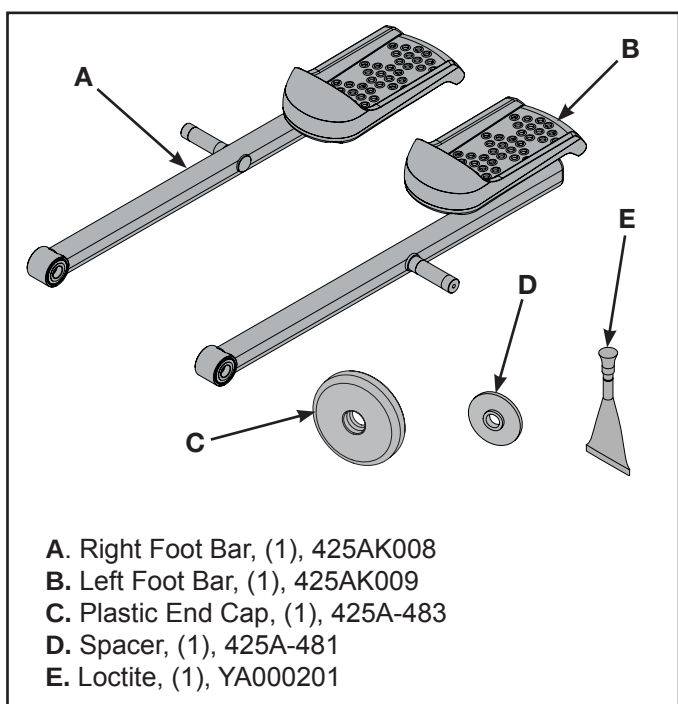

Figure 1
- 7/32 Allen wrench (2)
2. Verify you received the appropriate kit. See Figure 1.